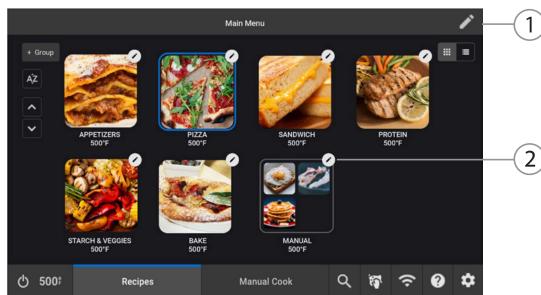

Figure 24: Select Group to Edit
- Touch the Edit button in the top-right corner of the screen (Figure 24, above).
- Touch the Edit Pencil button for the group you want to edit (Figure 24, above).